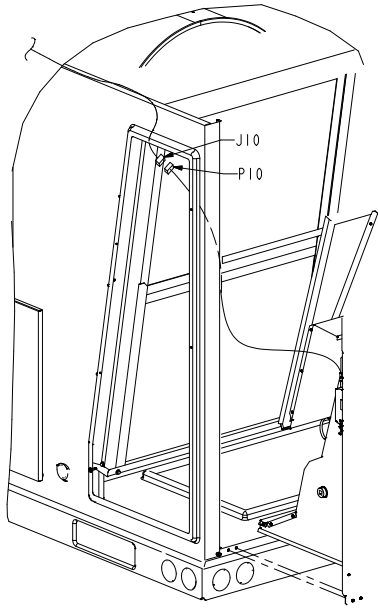

FIGURE 5
- 6- Locate the kit harness that has connectors on both ends. Connect the female jack with wires labeled J4-3 & 7 to the outdoor air damper harness plug (P4). Connect the other end of kit harness to J10 hanging in the upper left corner of the return air section. See figure 5 for J10 location.